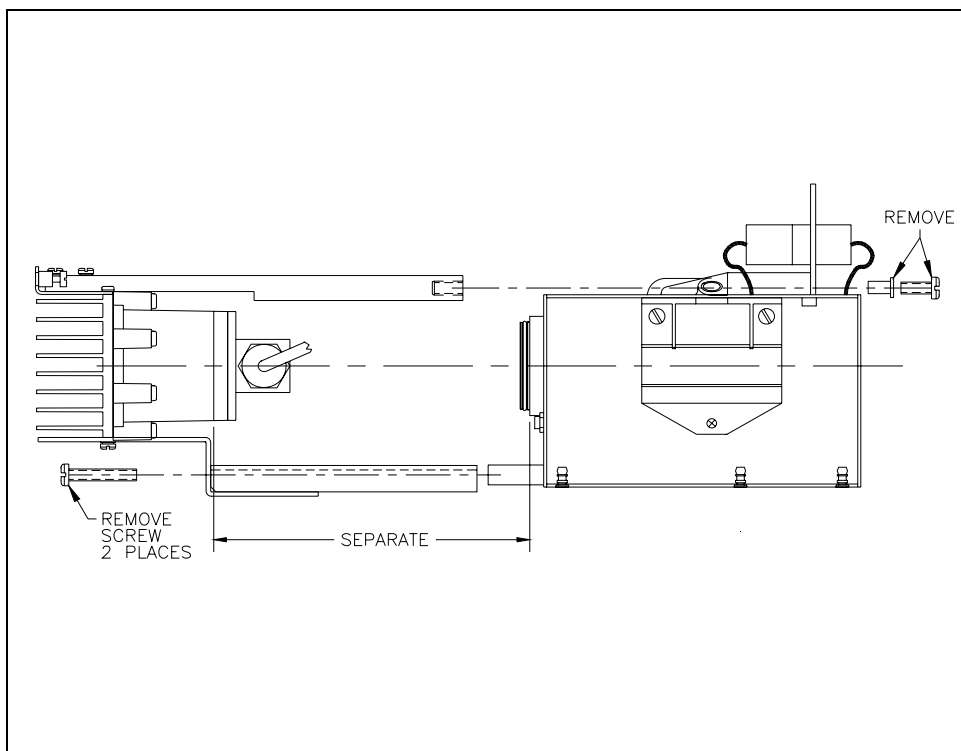

Figure 17. Rx Cell PMT/Housing Separation
7. To separate the Rx cell from the PMT housing, remove the three screws that secure the Rx cell to the PMT housing. Refer to Figure 17.